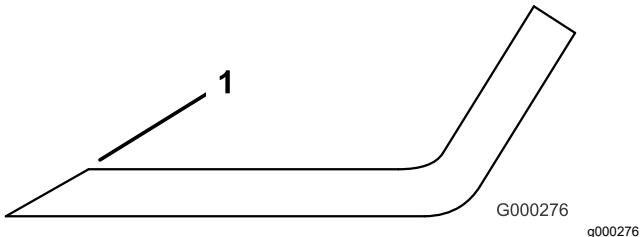

Figure 27
- Examine the cutting edges of all of the blades and sharpen the cutting edges if they are dull or nicked (Figure 27).
**Note:** Sharpen only the top of the cutting edge and maintain the original cutting angle to ensure sharpness (Figure 27). The blade remains balanced if the same amount of metal is removed from both cutting edges.